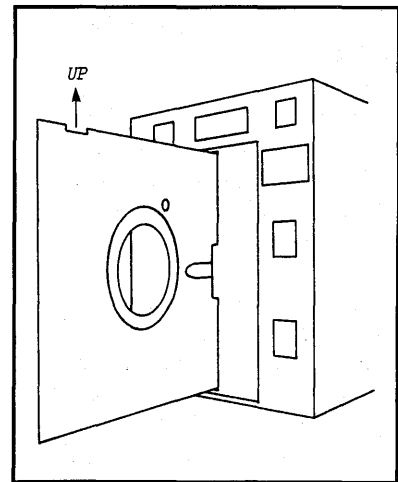

Figure 9-3
- #2. Position the diskette as shown in Figure 9-3.